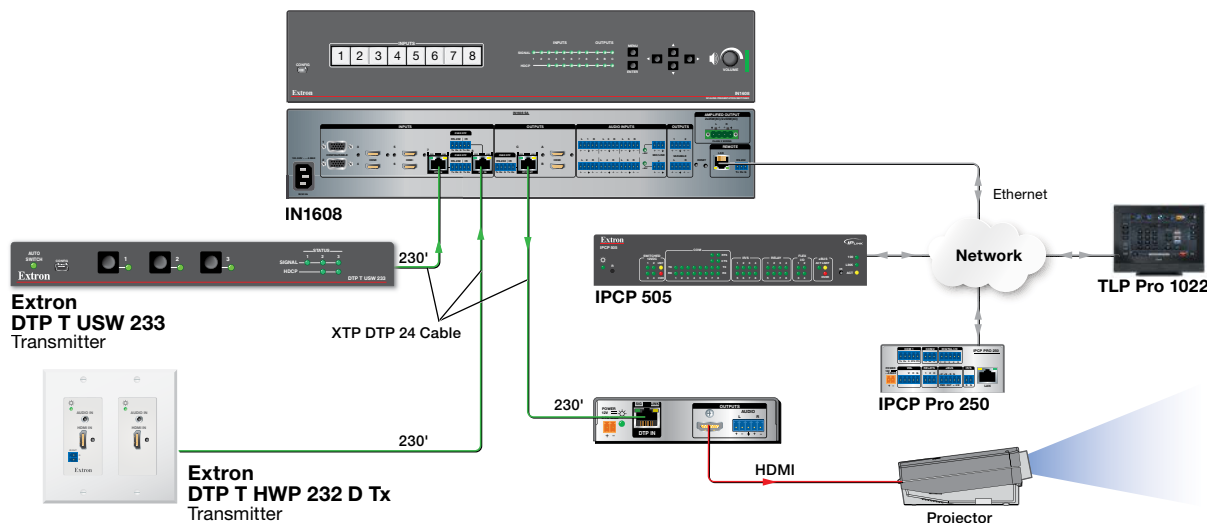

Figure 1. Typical Switching Transmitter Application
The DTP T USW 233 is a 3 input VGA and HDMI switcher with a DTP transmitter output (see figure 1). It switches among one analog VGA and two HDMI inputs, including embedded audio (or DVI video with the appropriate adapters). The switcher converts the selected input, an optional analog audio input, and bidirectional RS-232 and infrared (IR) control signals to a proprietary digital signal. It outputs the signal to a compatible DTP receiver. The switcher and receiver extend the usable distance of video, audio, and control signals up to 230 feet (70 meters) over a single shielded twisted pair cable (STP).